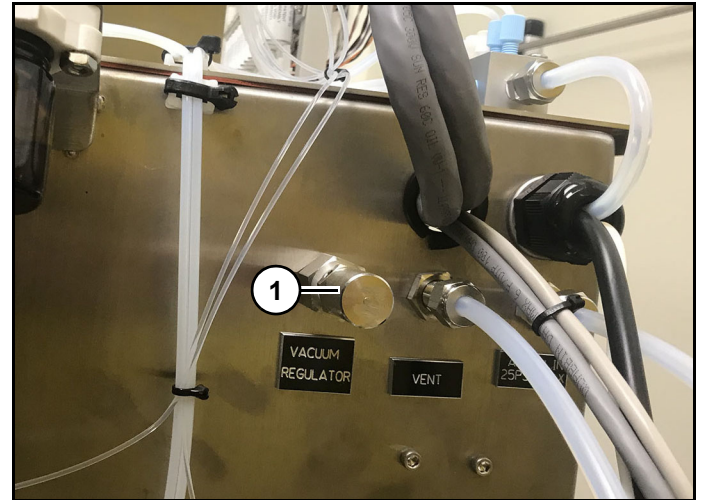

Figure 1
Vacuum breaker (1) (Figure 1) is located on right hand side of instrument.